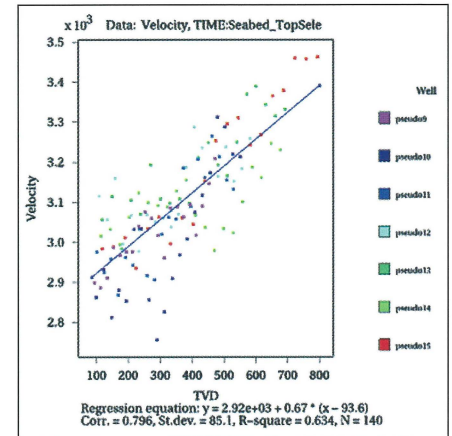

Fig. 2. Illustrates an observed trend with depth.
2. Check for spatial trends and standard deviation through data analysis. Figure 2 (top right) illustrates an observed trend with depth, and the standard deviation is around 85 m/s when the trend is removed (approximately 3%).